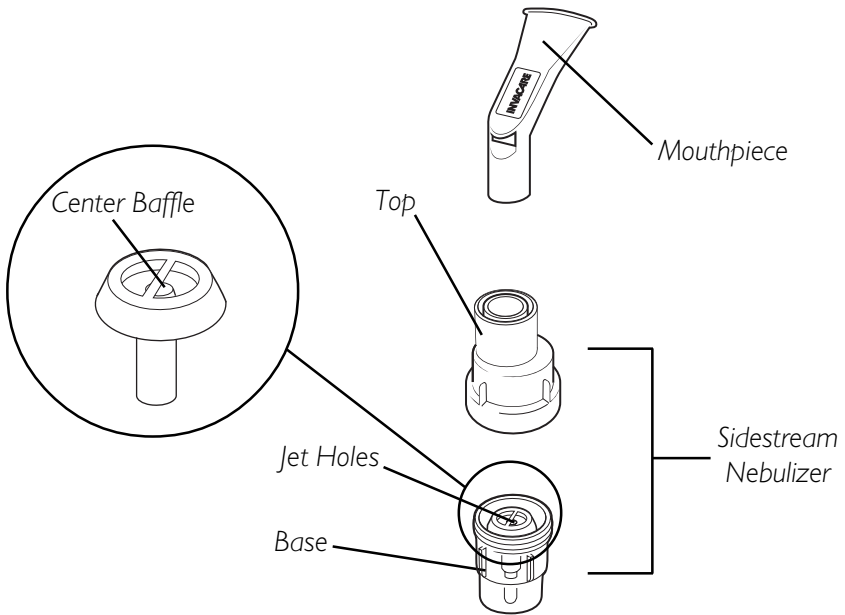

FIGURE 3 - AFTER THE TREATMENT
AFTER THE TREATMENT (FIGURE 3)
6. Disassemble the Sidestream nebulizer into three (3) pieces: the base, the center baffle and the top as shown in FIGURE 3. Wash Sidestream nebulizer and mask or mouthpiece in warm soapy water, rinse thoroughly and air dry.